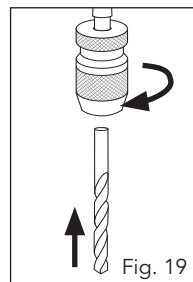

Fig. 19
2. Your bench drill is equipped with a keyless chuck. This enables tools to be changed without the need for an additional chuck key. To do so, insert the tool in the quick-change drill chuck and tighten by hand (Fig. 19).